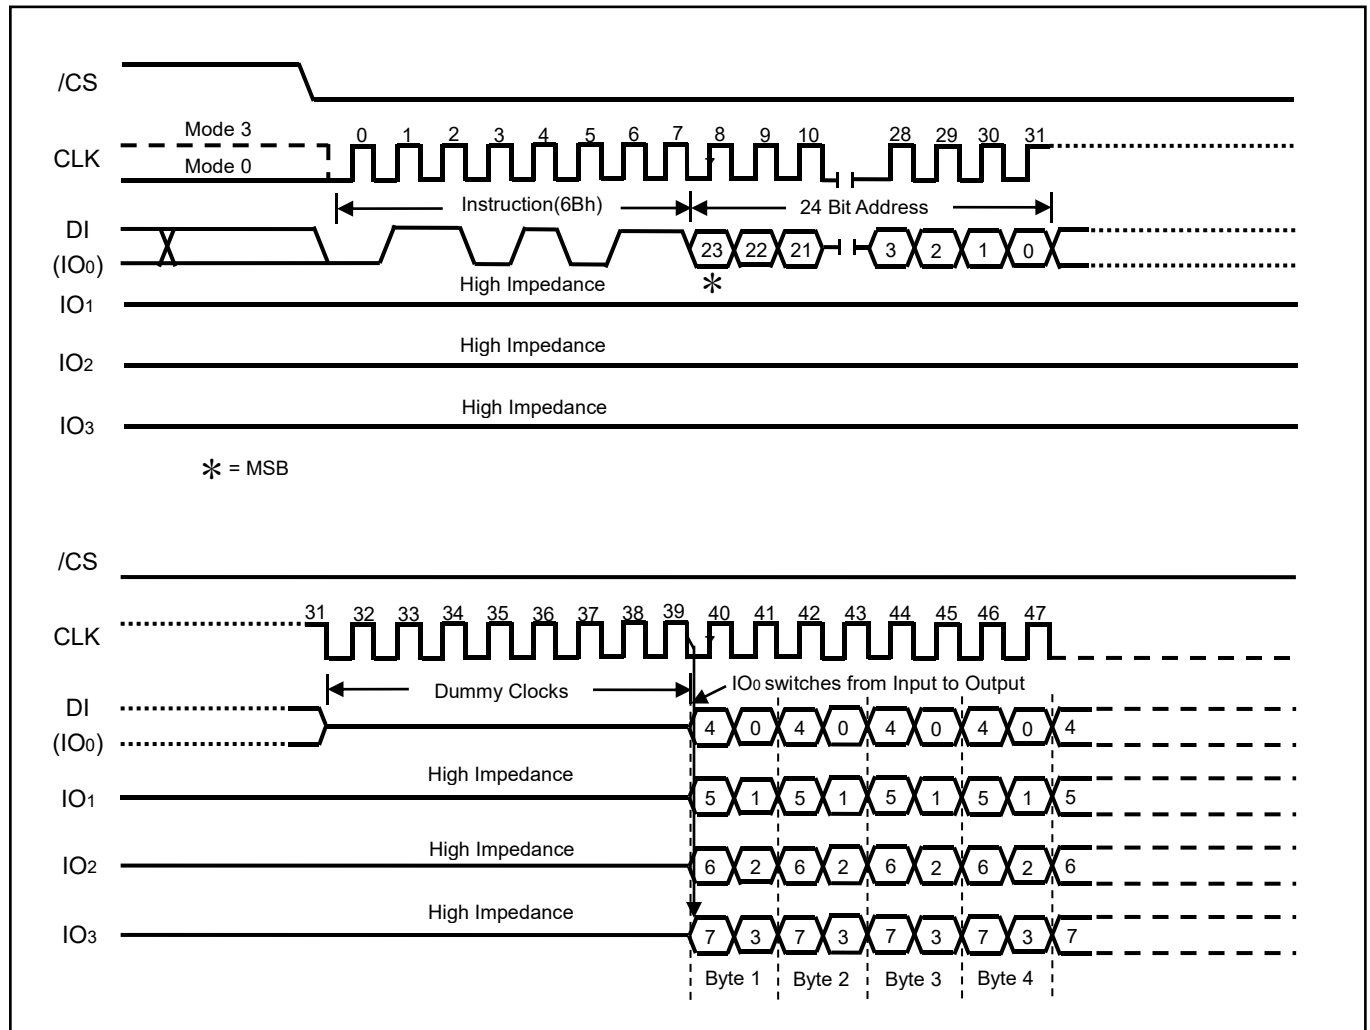

Figure9. Quad Output Fast Read Sequence Diagram
The Quad Output Fast Read command is followed by 3-byte address (A23-A0) and a dummy byte, and each bit is latched in on the rising edge of CLK, then the memory contents are shifted out 4-bit per clock cycle from IO3, IO2, IO1 and IO0. The command sequence is shown in followed Figure9. The first byte addressed can be at any location. The address is automatically incremented to the next higher address after each byte of data is shifted out. The Quad Enable bit (QE) of Status Register (S9) must be set to enable for the Quad Output Fast Read command.